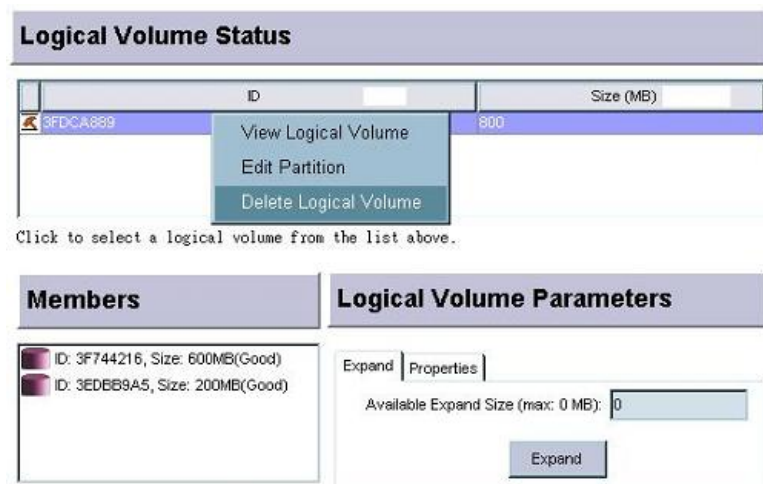

Figure 9-22: Displaying Logical Volume Edit Mode Menu
Step 1. Select the configured volume you wish to remove with a single mouse-click. **Right-click** the adjacent area to display a command menu. As shown in **Figure 9-22**, all the LVs that have been created will appear below the **Logical Volume Status** panel.